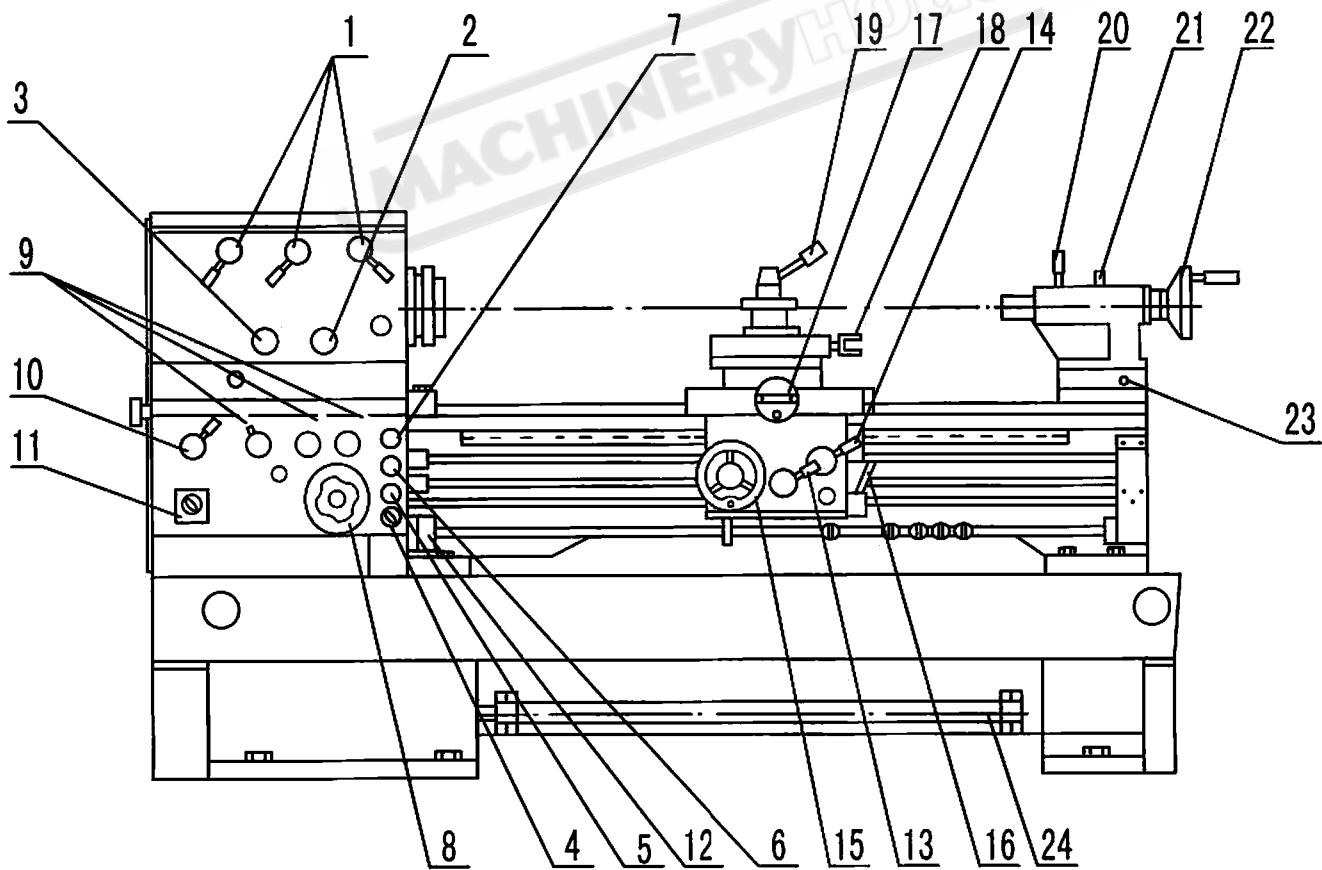

Fig.4
1. **Headstock Geat Change Levers** (1, Fig.4)-Located on the front of the headstock at the top. Move levers according to the chart to desired spindle speed.
2. **Leadscrew/Feedrod Directional knob** (2, Fig.4)-Located on the front of the headstock. Turning the knob causes carriage travel toward the headstock or the tailstock. Do not turn the knob while machine is running.
3. **Feed/Lead Selector lever** (3, Fig.4)-located on the front of the headstock, Used whenever setting up for threading or feeding.
4. **Coolant on-off Switch** (4, Fig.4)-located on the front of the gear box. Turns coolant pump on and off.
5. **Eergency Stop Switch** (5, Fig.4)-located on the front of the gear box, Depress to stop all machine functions.
6. **Jog Swich** (6, Fig.4)-Depress and release to advance spindle momentarily.
7. **Power Indicator Light** (7, Fig.4)-Lit whenever lathe has power.
8. **Feed/lead Rate Selector Hand Wheel** (8, Fig.4)-Located on the front of the gear box Used in setting up for feeding and threading.
9. **Feed/Lead Rate Selector lever** (9, Fig.4)-located on the front of the gear box. Used in setting up for feeding and threading.
10. **Change Gear Lever** (10, Fig.4)-located on the front of the gear box. Used in setting up for feeding and threading, Moving the change gear lever to cut all kinds of inch(metric) and DP(MP) threads in the feed and thread tables with no change gears to replace. It's more easier to cut thread.
11. **Power Swith** (11, Fig.4)-Located on the front of the gear box. Turns main power to lathe on and off.
12. **Longitudial Touch-Stop Hand wheel** (12, Fig.4)-Located on the right side of the gear box. Turning the hand wheel to change the position of auto carriage stop.
13. **Auto feed on-off Lever** (13, Fig.4)-located on the front of the apron. Move the lever up, auto feed is on. Move the lever down, auto feed is off.
14. **Feed selector and Half Nut Engage Lever** (14, Fig.4)-Located on front of the apron assembly. Move the lever down to engage, thread can be cut, (Note: The auto feed on-off lever must be moved down). Move the lever up to active the crossfeed and the longitudinal functions. (Note: The auto feed on-off lever must be moved up.)
15. **Longitudinal Traverse Hand Wheel** (15, Fig.4)-Located on the apron assembly. Rotate hand wheel clockwise to move the apron assembly toward the tailstock(right). Rotate the wheel counter-clockwise to move the apron assembly toward the headstock(left).
16. **Spindle Forward/Reverse Selector Lever** (16, Fig.4)-Move the lever down or up to change the spindle rotaion derection.
17. **Croze Traverse Hand wheel (17, Fig.4)**-Located above the apron assembly. Clockwise rotation moves the cross slide toward the rear of the machine.
18. **Compound Rest Traverse Handwheel (18, Fig.4)**-Located on the end of the compound slide. Rotate clockwise or counter-clockwise to move the position.
19. **Tool Post Clamping Lever (19, Fig.4)**-located on the top to the tool post. Rotate counter-clockwise to loosen and clockwise to tighten.
20. **Tailstock Quill Clamping Lever (20, Fig.4)**-Located on the tailstock. Lift up to lock the spindle. Push down lever to unlock.
21. **Tailstock Clamping Lever (21, Fig.4)**-located on the tailstock, Lift up lever to lock. Push down lever to unlock.
22. **Tailstock Quill Traverse Handwheel (22, Fig.4)**-Located on the tailstock. Rotate clockwise to advance the quill. Rotate counter-clockwise to retract the quill.
23. **Tailstock off-set Adjustment (23, Fig.4)**-a hex socket cap screw located on the tailstock base is used to off-set the tailstock for cutting tapers.
24. **Foot Brake (24, Fig.4)**-Located on the one piece cast iron base. Depress to stop all lathe functions.